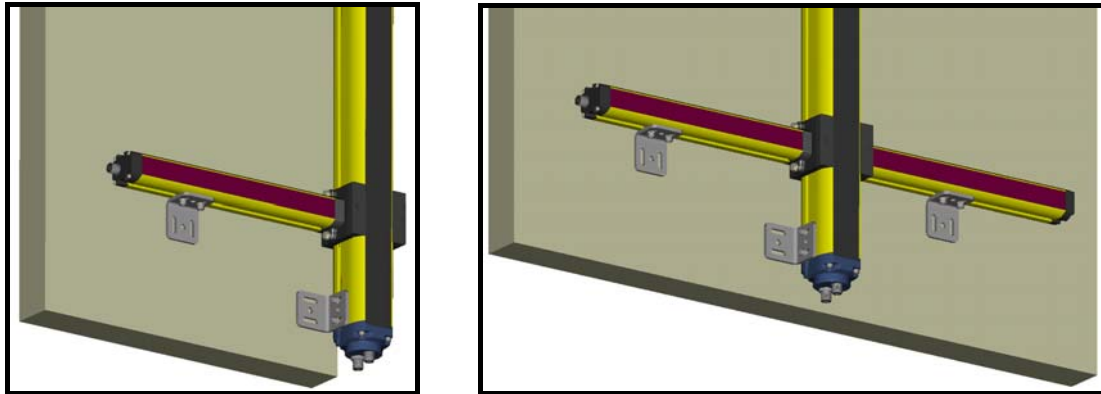

Figure 27
• Figure 27.
In presence of strong vibrations fixing brackets (see paragraph 4.1) for the Muting arms mounting are compulsory (Figure 27), which are optional in normal working conditions.